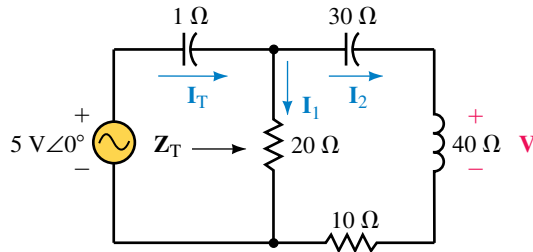

FIGURE 18–116
49. Refer to the circuit of Figure 18–117: